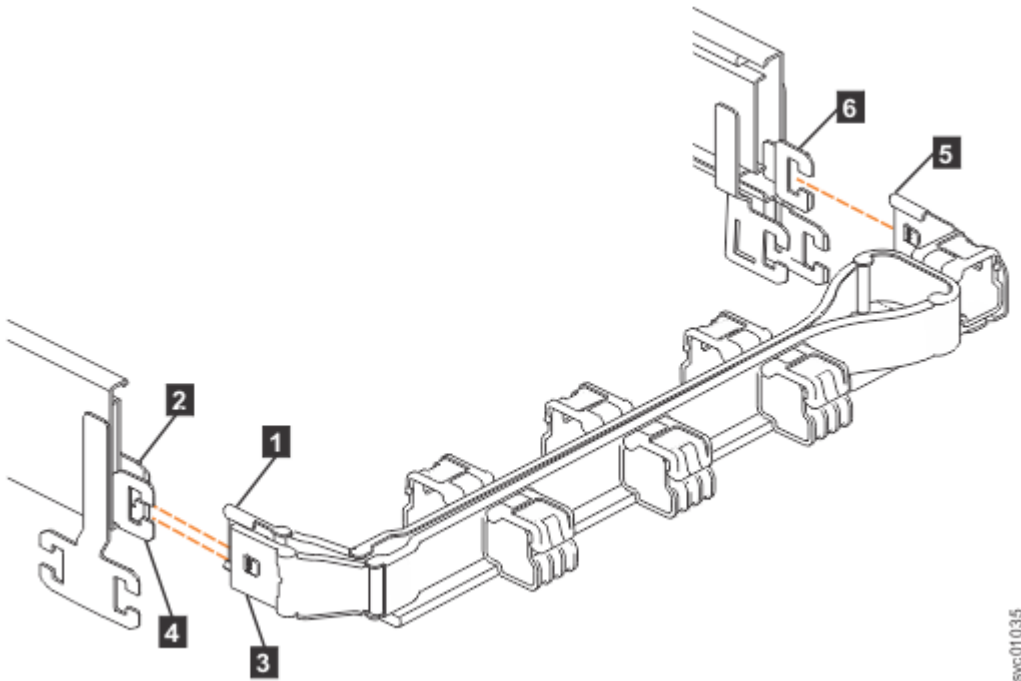

Figure 90. Connectors for the upper cable management arm
The connectors of the CMA are installed on the rail hooks at the end of the support rails. Figure 90 on page 153 shows the connectors on the upper CMA assembly.
1. Press the latch on the connector base on the upper CMA assembly (**5** in Figure 90 on page 153).
2. Pull the connector to remove it from the connector base on the right support rail (**6** in Figure 90 on page 153).
3. Press the latch on the outer connector of the upper CMA assembly (**3** in Figure 90 on page 153).
4. Remove the outer connector from the inner member of the left support rail (**4** in Figure 90 on page 153).
5. Remove the inner connector of the upper CMA assembly (**1**) from the inner member of the left support rail (**2**), as shown in Figure 90 on page 153.
**Note:** The procedure for removing the lower CMA assembly is the same as the procedure to remove the upper CMA assembly. However, the connector locations are reversed. For example, the connector base of the upper CMA (**5** in Figure 90 on page 153) connects to the right rail. The connector base of the lower CMA (**11** in Figure 91 on page 154) attaches to the left rail.